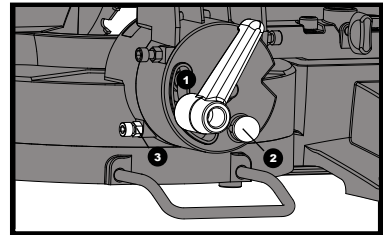

Fig 20
- 1) Twist and deploy sprung-loaded crown moulding pin (2).
- 2) Loosen the bevel lock handle (1) and rotate the cutting head in the required direction until it indexes with the moulding pin (2). Tighten the bevel lock. (See fig. 20)
- 2) If adjustment is required loosen the locknut (3) to the relevant socket headed stop screw. Adjust the screw in or out until the correct bevel angle is achieved. Retighten the locknut. (See fig. 20)